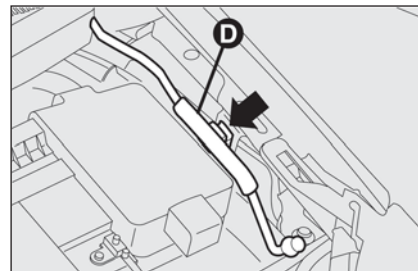
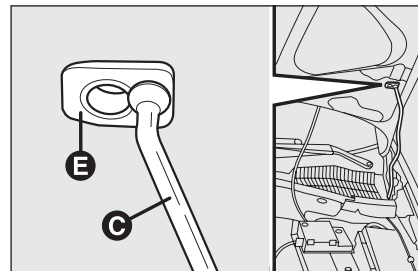

fig. 90
fig. 91
- lift the bonnet and at the same time release the rod **D-fig. 90** from the catch, then fit the rod end **C-fig. 91** into the bonnet recess **E**.
- hold the bonnet up with one hand and with the other remove rod **C**-**fig. 91** from recess **E** and fit it back into its catch **D**-**fig. 90**;